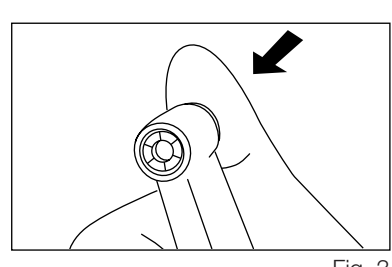

Fig. 3
- Push the push button to open the chuck. (Fig.3)